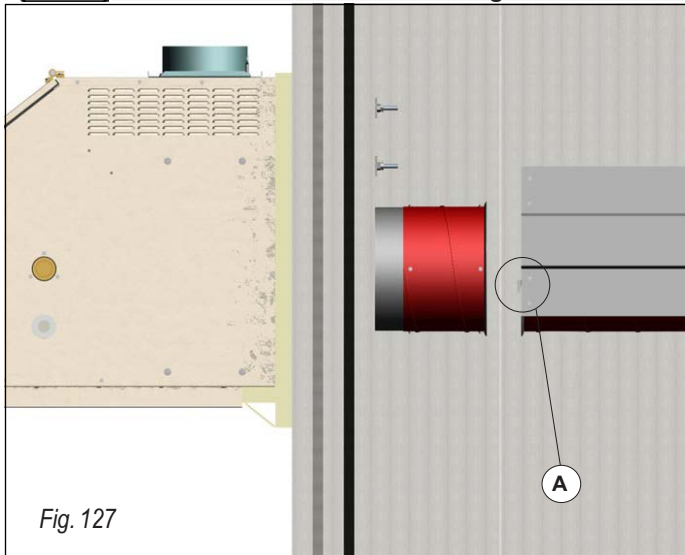

Fig. 127
Be very careful when installing the first unit of the radiant belt and make sure that the male tooth (A) is turned over on the side of the generator as shown in figs. 127, 128 and 129.